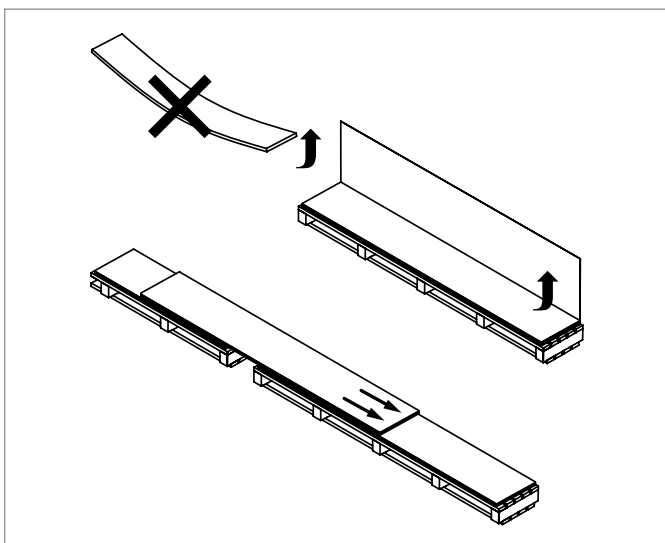

Abb. 3-1 Transport
- **Because of the risk of breakage, do not transport individual boards horizontally. Rather, stand them upright from the stack or a firm base and transport them vertically. Alternatively, slide them horizontally onto a pallet of the same height (Abb. 3-1).**